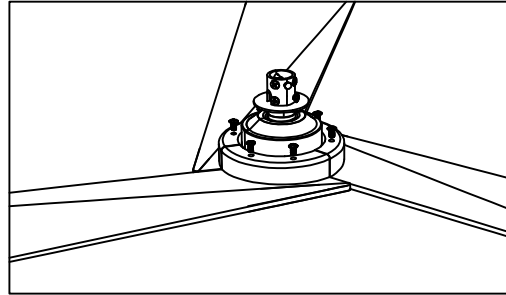

Figure 2
- 2) Fix the fixed support blades on the motor in turn. **(Figure 2)**